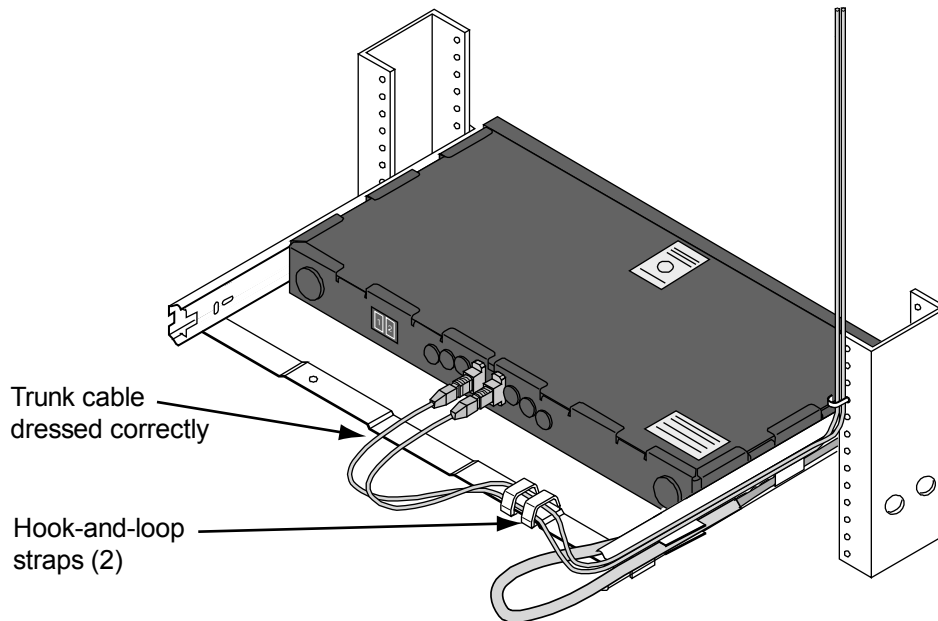

Figure 8. Check the Trunk Cable
2. If slack trunk cable will not be stored at the shelf, attach the two straps to the cable management bar near the hole in the bar closest to the rack support where the trunk cable is routed. Refer to Figure 8.
7. Check that the trunk cable is dressed correctly as shown in Figure 8. The cable should make an acceptable, non-tensioned bend from the straps, and should connect straight into the back of the shelf.